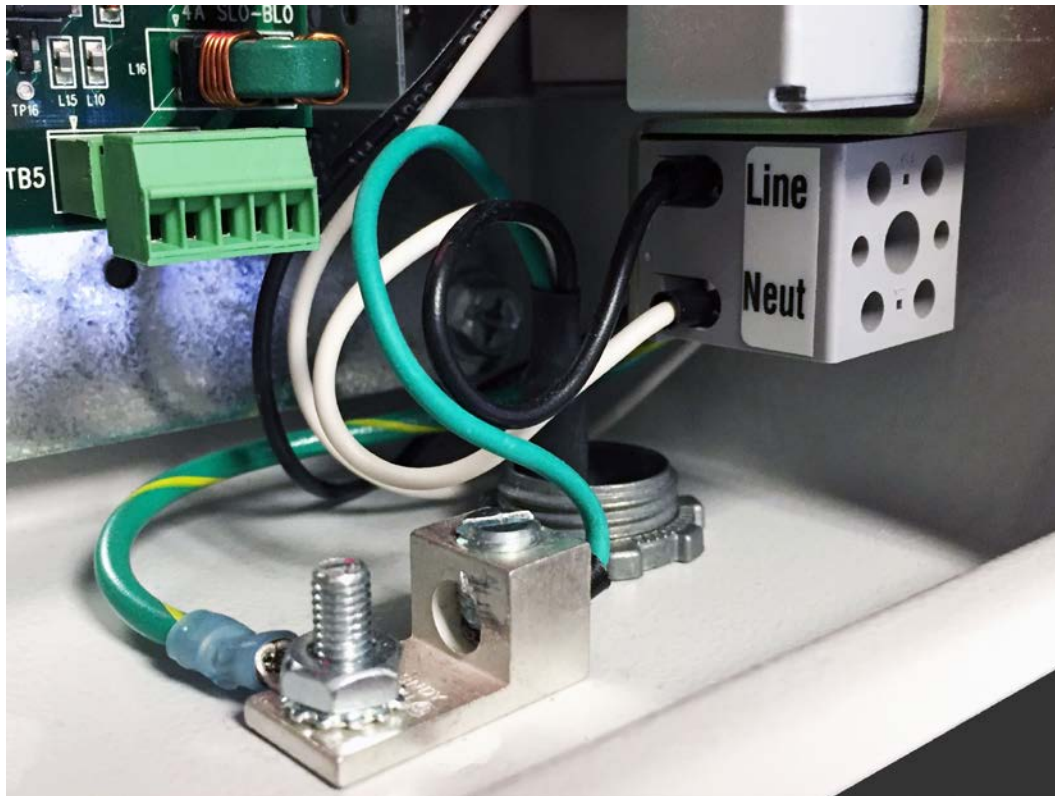

Figure 2-4. AC Wiring Connections, SMI 2 Enclosure
To make AC input connections to the SMI 2, do the following, referring to Figure 2-4 on page 30 and Figure 1 or 2 wiring diagrams at the end of the manual. Remember to allow plenty of room to make wiring connections.
4. Connect the ground (green or green/yellow) wire to the setscrew terminal on the ground stud on the bottom of the enclosure near the right side (see Figure 2-4)
5. Connect power wires to the input connectors on the SMI 2 control board labelled "Line" and "Neut," as shown in Figure 2-4 and Figure 1, SFC Machine Monitor 2 Wiring Diagram at the end of this manual.